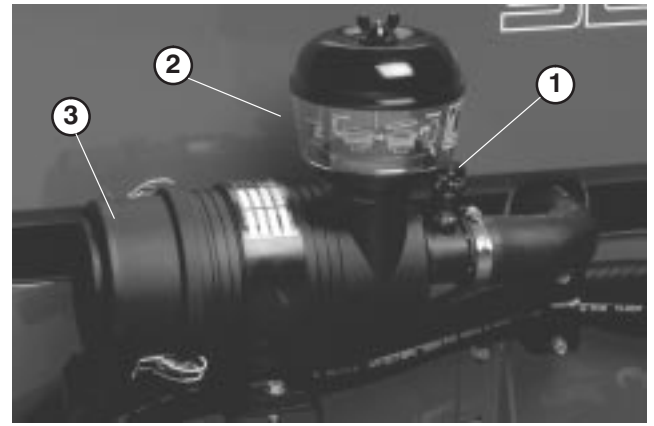

Figure 48
2. Service the air cleaner filters whenever air cleaner indicator (Fig. 48) shows red or every 400 hours (more frequently in extreme dusty or dirty conditions). Do not over service air filter.
1. Remove thumb screw and separate cover from precleaner bowl (Fig. 48).
9. Reset indicator (Fig. 48) if showing red.